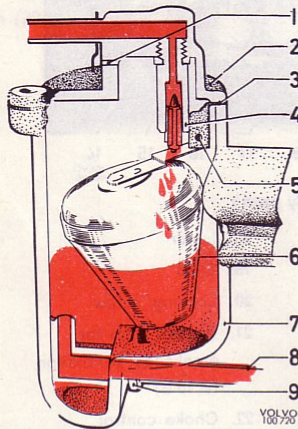

Fig. 11. Float mechanism
The valve (4, Fig. 11) which is opened and closed by the float, is fitted in the cover. The fuel is taken to the lower end of the jet through a flexible hose (8) from the lower part of the floatchamber.